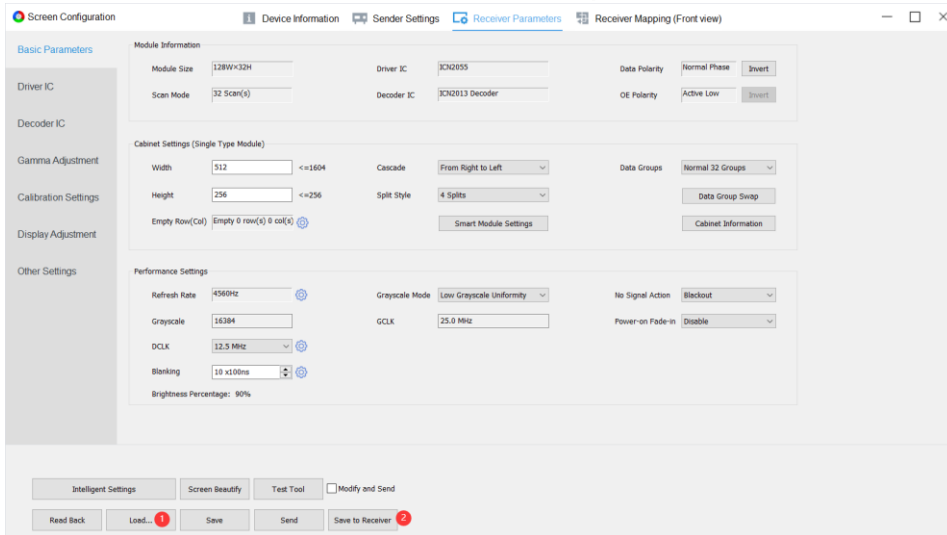

Fig 2.3.1 Save receiver parameters
Step 3: After the parameters are configured, click the Save to Receiver button to save the parameters to the receiver cards, as shown in Figure 2.3.1.